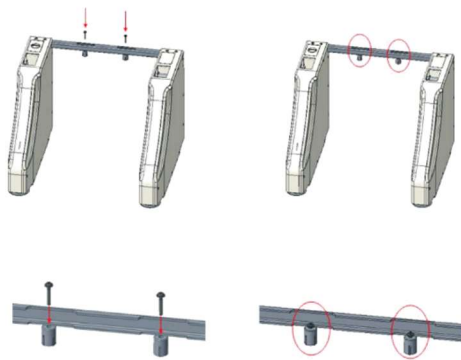

Figure 10 Equipment is fixed with the toilet by bolts
- 4) for those poor body balance users, the crossbeam of the equipment main part A must be fixed with the toilet by bolts (as shown in Figure 10, Figure 11).